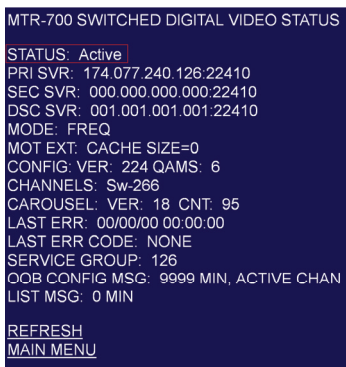

Figure 13-5: Tuning Resolver Active
9. A new menu opens, Figure 13-5, which shows the Status as 'Active'.